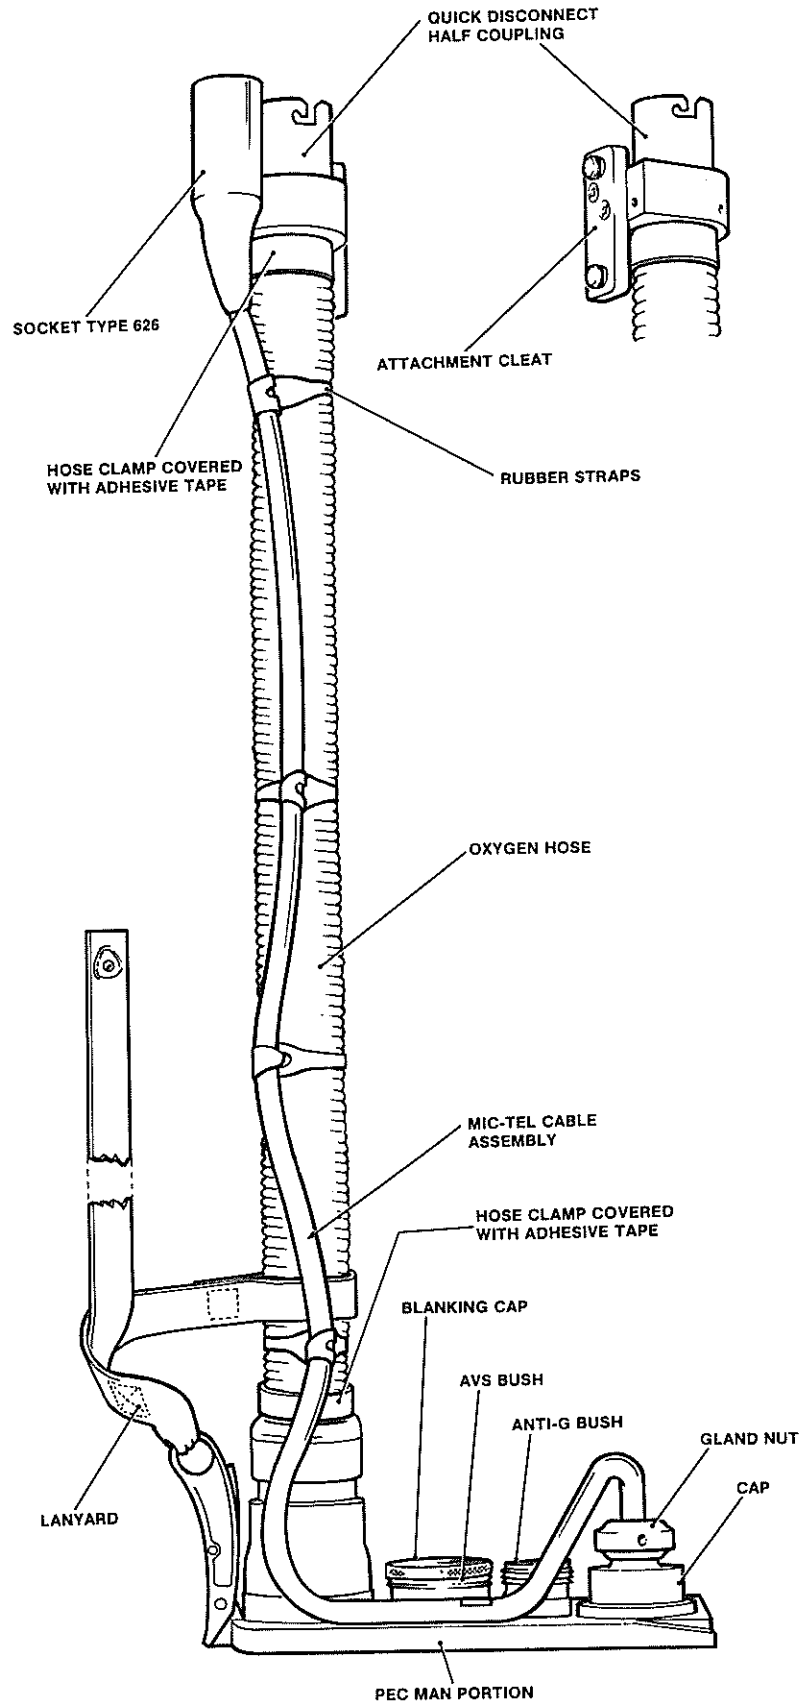

Fig 3 Oxygen mask hose assembly Mk 9A
► OXYGEN MASK HOSE ASSEMBLY Mk 9A (Fig 3) (Mod PE 58 incorporated) ◀